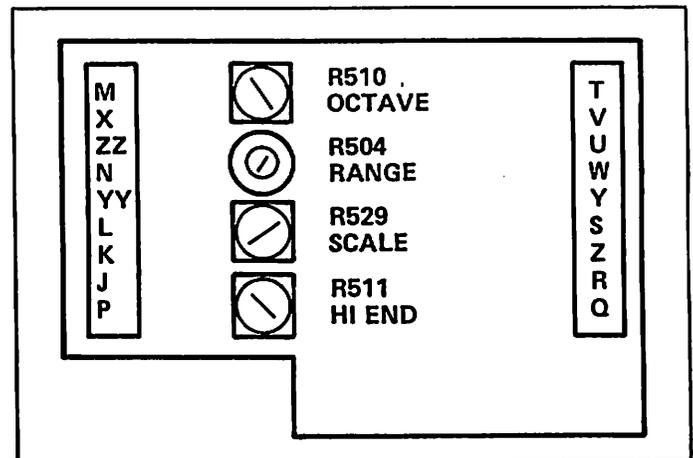

FIGURE 4-5 OSCILLATOR B TRIMPOT LOCATIONS (BOARD NO. 5)
a) Zero beat oscillator B with oscillator A using range trimpot R504, Figure 4-5 (oscillator B will be 1 octave lower than oscillator A).
b) Hold down highest B_b key and zero beat oscillator B with oscillator A using scale trimpot R529, Figure 4-5 (oscillator B one octave below oscillator A).
a) Zero beat oscillator B with oscillator A using range trimpot R504, Figure 4-5 (oscillators A and B in unison).
b) Hold down highest B_b key and zero beat oscillator B with oscillator A using high end trimpot R511, Figure 4-5 (oscillators A and B in unison). Repeat steps a and b several times.
b) Set "B" PITCH control fully clockwise to 10 and zero beat oscillator B with oscillator A using octave trimpot R510, Figure 4-5 (oscillator B one octave above oscillator A).